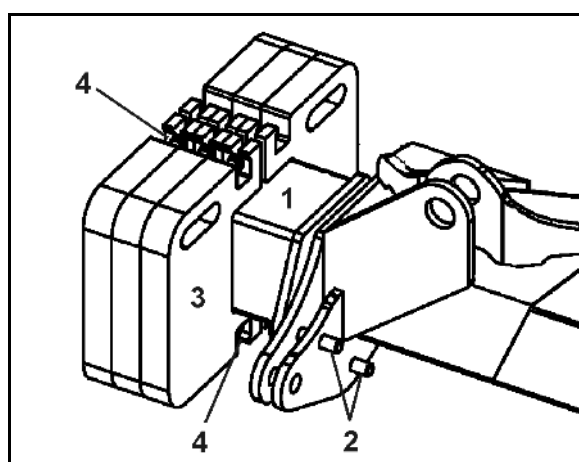

Fig. 32
Before making the adjustment, pull the fastening bolt (Fig. 32/2).
After the adjustment, hold the spacer elements (Fig. 32/1) in place using the fastening bolt and secure them using the clip pin (Fig. 32/3).
2. Swivel out the rear spacer elements (starting with both stop washers (Fig. 32/4) on both booms).
2. Swivel out the front spacer elements (starting with both stop washers (Fig. 32/4) on both booms).